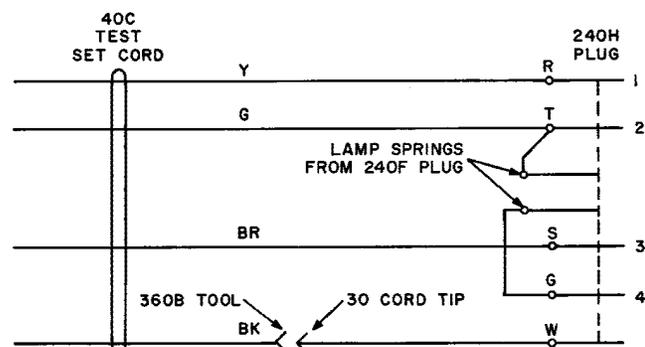

Fig. 1 — Modification of 240F Plug
2.04 40C test set equipped with a W7B cord, 11 feet long, having a 240H plug modified as shown in Fig. 1.